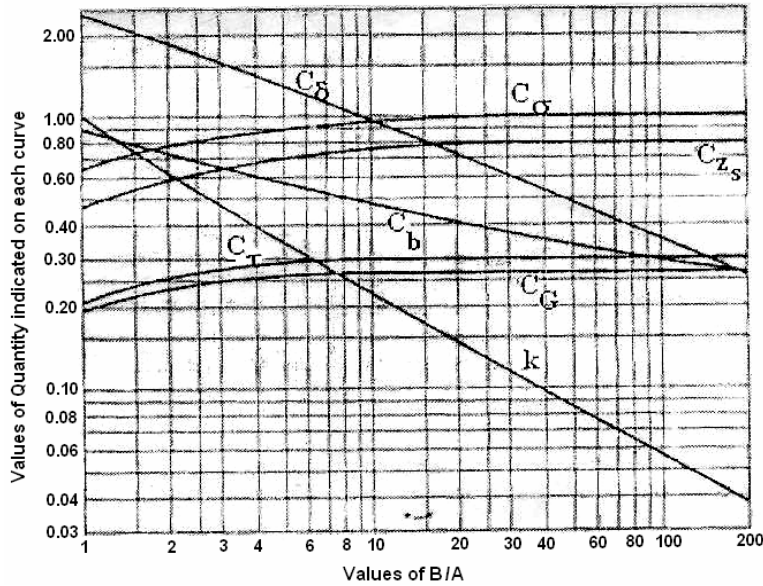

Fig.4
7. Two semicircular disks are made of steel ($E_1 = E_2 = 200 \text{ Gpa}$ and $\nu_1 = \nu_2 = 0.3$) The radii of curvature of the two surfaces at the point of contact are $R_1 = 60\text{mm}$, $R_1^1 = 130 \text{ mm}$, $R_2 = 80 \text{ mm}$ and $R_2^1 = 200\text{mm}$. The angle α between the planes of minimum curvature is $\frac{\pi}{3}$ rad. If the load $P = 4.50 \text{ KN}$, determine the maximum principal stress, maximum shear stress using fig. 4.